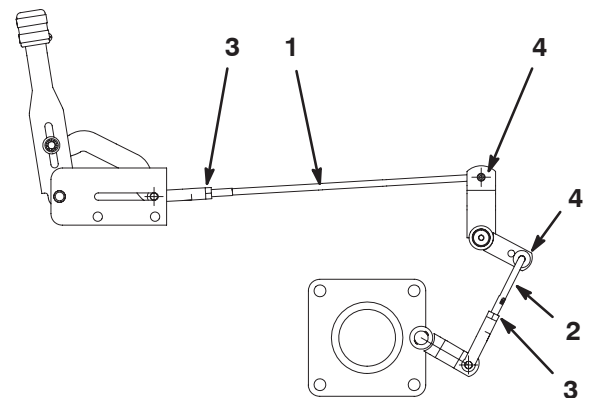

Figure 28
2. Loosen the jam nut on the actuator rod (Fig. 28). Remove the cotter pin retaining the actuator rod. Increase or decrease the actuator rod length by rotating the rod. Install the actuator rod using a new cotter pin and secure the jam nut.